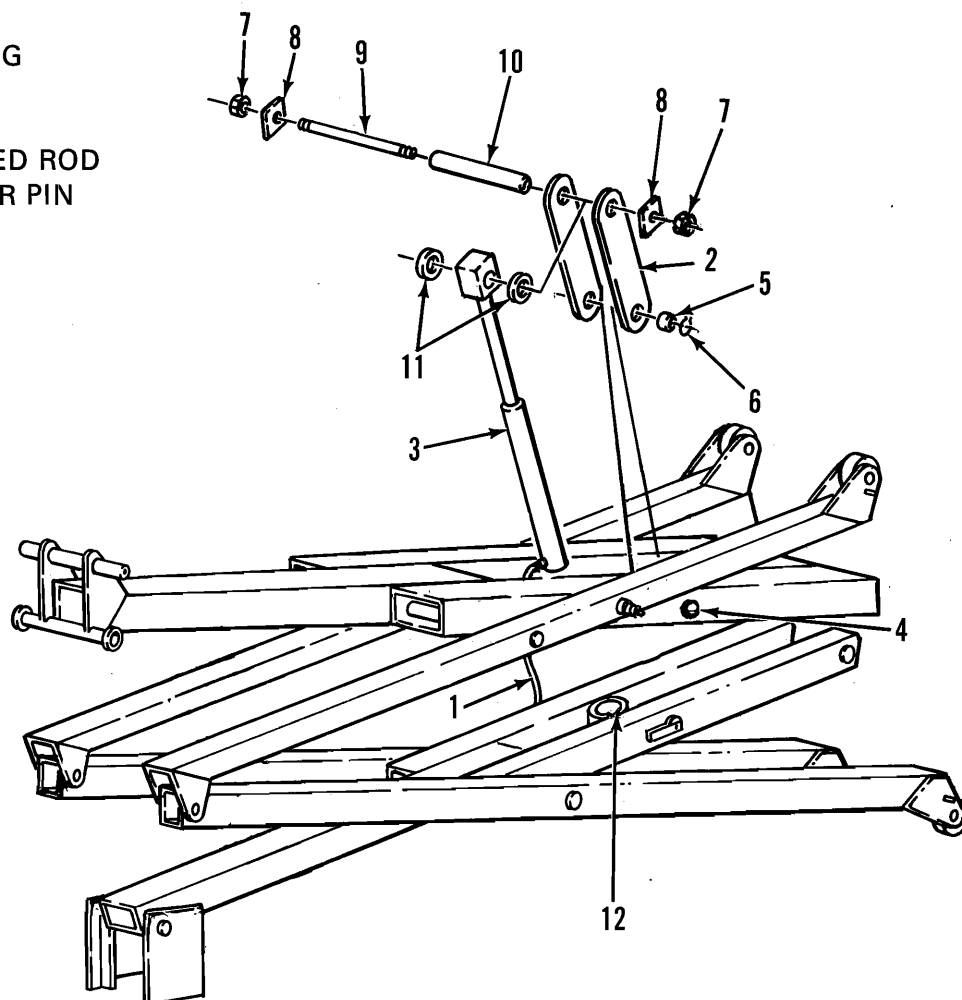

Figure 5-14. Lift Cylinder Removal
(1) Remove the platform floorboard.
(2) Refer to Figure 5-14 and remove the nuts (7) and plates (9).
(3) Slip the threaded rod (9) and clevis pin (10) to one side to allow bracket (2) to swing free. Lower the bracket (2) and repeat same procedure for opposite side.
(4) Provide a suitable container to catch the draining hydraulic fluid then, disconnect the hydraulic hose (7) and fitting from the base of the lift cylinder (4) and plug hose to prevent foreign material from entering.
(5) Attach a suitable hoisting device and sling to the top of the lift cylinder (3).
(6) Remove the lift cylinder (3), threaded rod (9), cylinder pin (10) and spacers (11) from the collar (12) to a prepared work area.
(1) Refer to Figure 5-14 and assemble the lift cylinder (3), cylinder pin (10), spacers (11), and threaded rod (9).
(2) Attach a suitable hoisting device and sling to the top of the lift cylinder assembly, and position the cylinder over the collar (12) then, lower the lift cylinder through the collar.
(3) Connect the hydraulic hose (1).
(4) Slide the cylinder pin (10) and threaded rod (9) to one side. Raise the bracket (2), of the opposite side, into position. Slide the cylinder pin and rod through the bracket a sufficient distance to allow the other bracket (2) to be raised into place. Center the cylinder pin and rod then install the plates (8) and nuts (7).